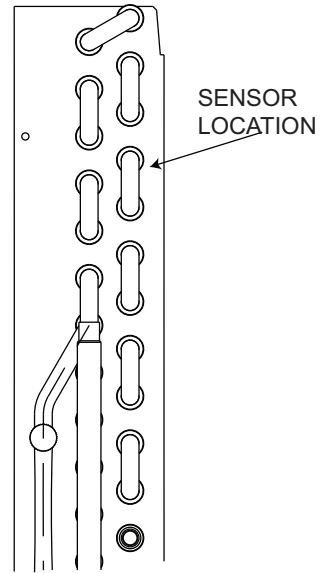

**Fig. 3- MotorMaster® Sensor**
5. Secure sensor on coil return bend with the No. 4-40 screw and nut supplied with kit as shown in Fig. 3.